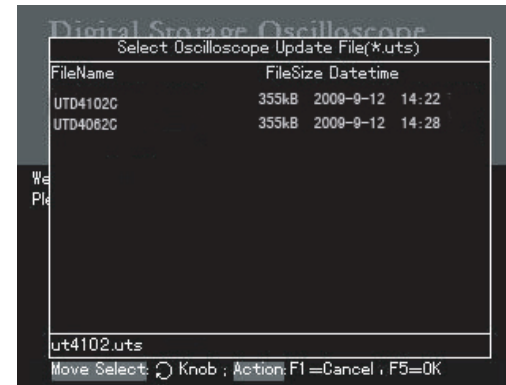

Figure 5-2 Selection of the USB upgrade document
4. When [F5] is pressed as shown in Figure 5-2, the following prompt will appear : Are you sure to update?
If the upgrade document on the USB device is incorrect, update will fail upon selecting the upgrade document by pressing [F5] (Figure 5-2). You will see the prompt : “Sorry, the package format isn’t correct”. Save a correct document on the USB device and repeat the previous steps for upgrade.